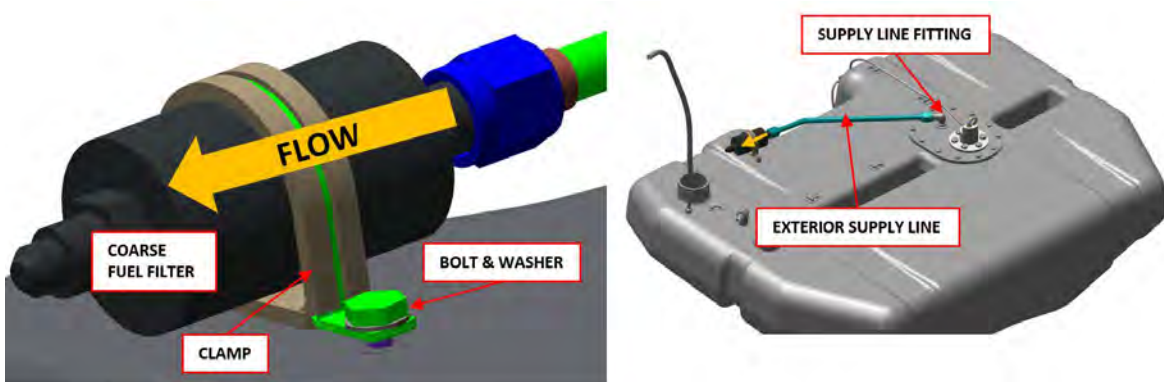

FIGURE 14-88
- a. Remove any caps or plugs from the Supply Line Fitting. (See Figure 14-88.)